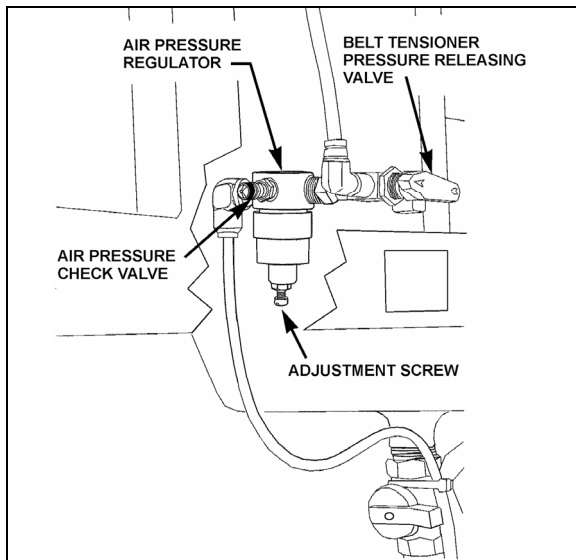

FIGURE 18: AIR PRESSURE REGULATOR 12200
1. Open engine compartment rear doors and locate the belt tensioner pressure releasing valve (Fig. 18), mounted above the engine R.H. side door next to the air pressure regulator, then turn handle clockwise in
4. Reset belt tensioner pressure releasing valve (Fig. 18) to 50 psi (345 kPa) to apply tension on the new belts as explained in Section 12.